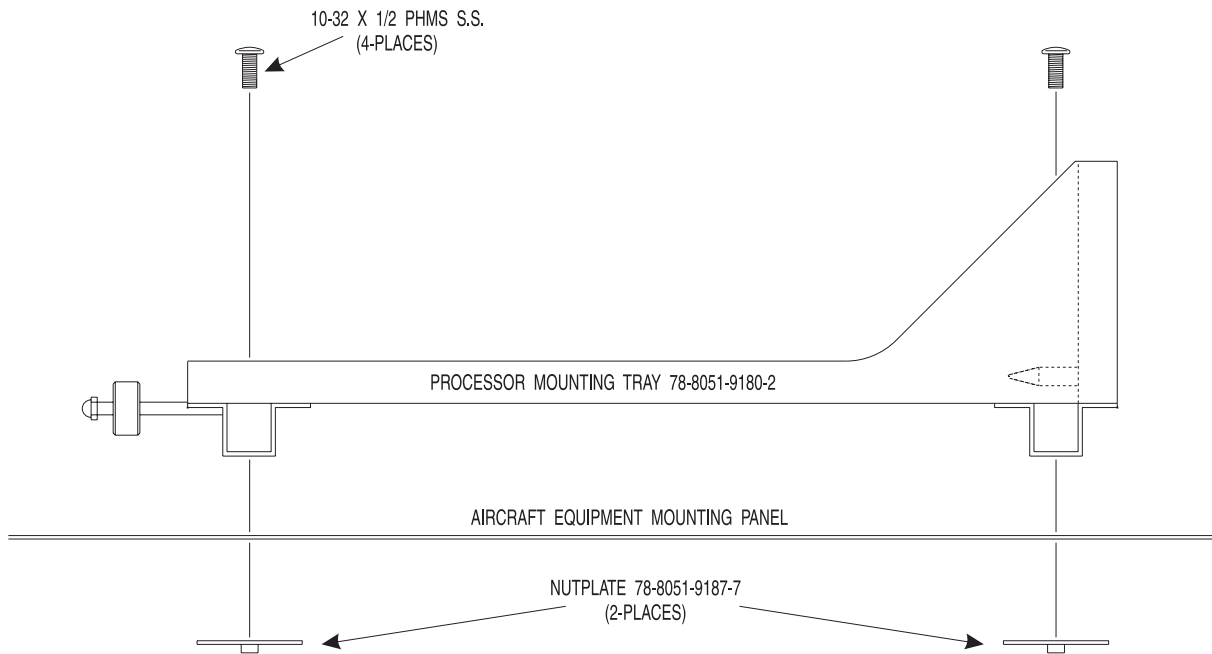

Figure 2-14. Processor Tray Installation
3. Install the mounting tray as shown in figure 2-14 using the four 10-32 x 1/2 screws and nut plates provided.